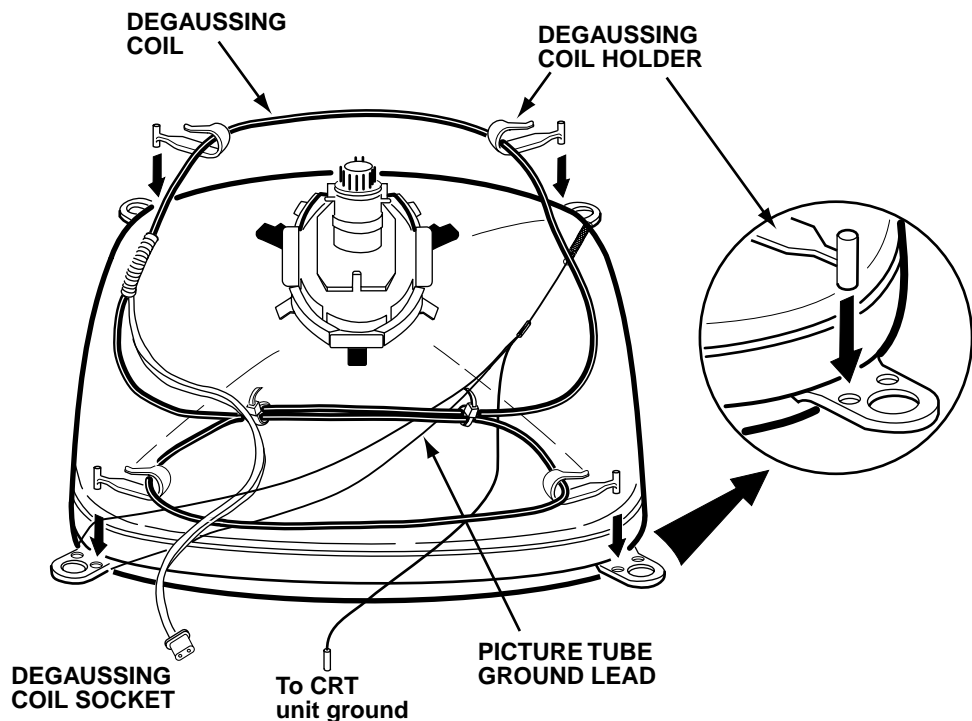

Figure 2. Picture Tube Removal
4. Install a replacement picture tube in reverse order. Properly install the degaussing coil and picture tube grounding lead on the picture tube. See Figure 2.
Note: If the Picture Tube is being replaced, mount the Degaussing Coil on the picture tube. See Figure 2.